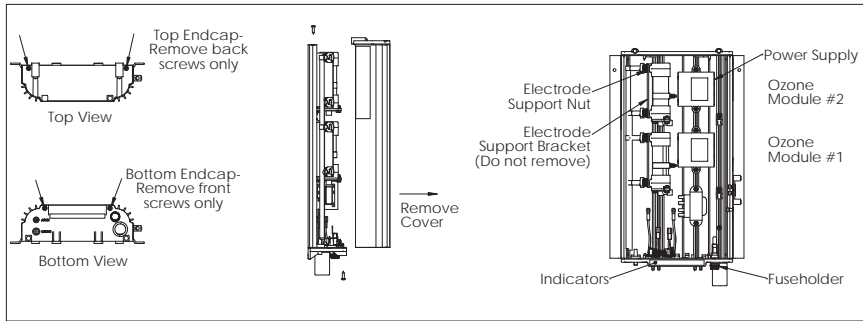

Figure 4 Component Locations (Eclipse-2 Shown).
4. The base of the DEL Eclipse has two tube connections. Connect the other end of the ozone supply tubing to the port marked "OZONE OUT" (see Bottom View - Figure 4).
Refer to Figure 4.
4C Generator Servicing - Refer to Figure 4
3. From the Bottom End-cap, remove the 2 front screws. See Figure 4 - Do not remove the screws securing the unit to the wall.